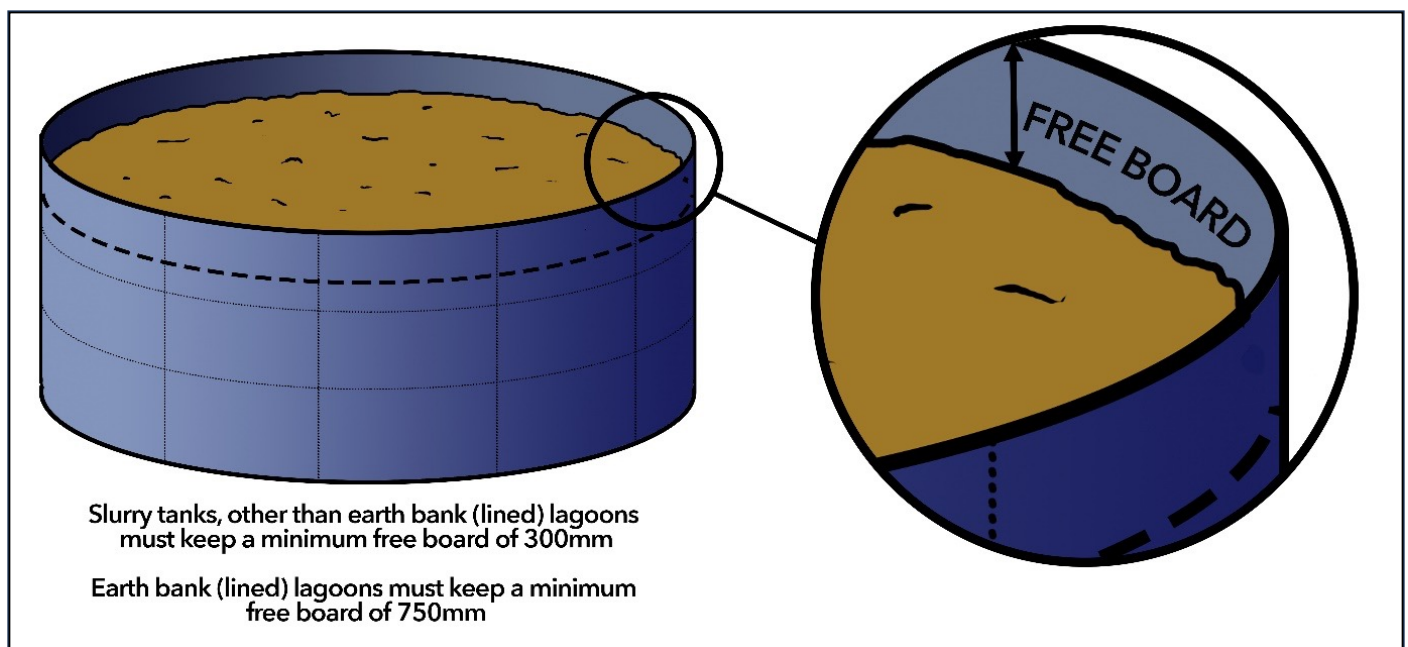

Figure 1.2. Slurry storage freeboard requirement.
- earth bank lined lagoons maintain a minimum freeboard of 750 mm and all other slurry tanks maintain a minimum freeboard of 300 mm (Figure 1.2).